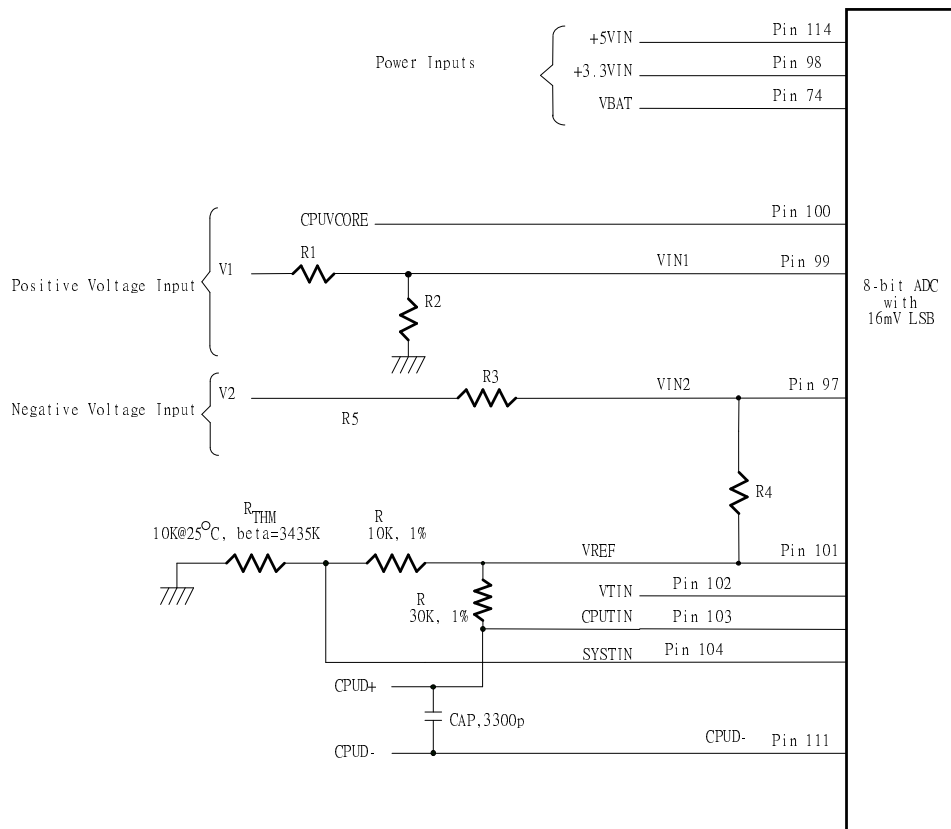

Figure. 6.2
The maximum input voltage of the analog pin is 4.096V because the 8-bit ADC has a 16mV LSB. Really, the application of the PC monitoring would most often be connected to power suppliers. The CPU V-core voltage, +3.3V, battery(pin 74) can directly connected to these analog inputs. The +12V voltage inputs should be reduced a factor with external resistors so as to obtain the input range. As Figure 6.2 shows.
The W83637HF can connect three thermistors to measure three different environment temperature. The specification of thermistor should be considered to (1)  $\beta$  value is 3435K, (2) resistor value is 10K ohms at 25°C. In the Figure 6.2, the thermistor is connected by a serial resistor with 10K Ohms, then connect to VREF (Pin 101).